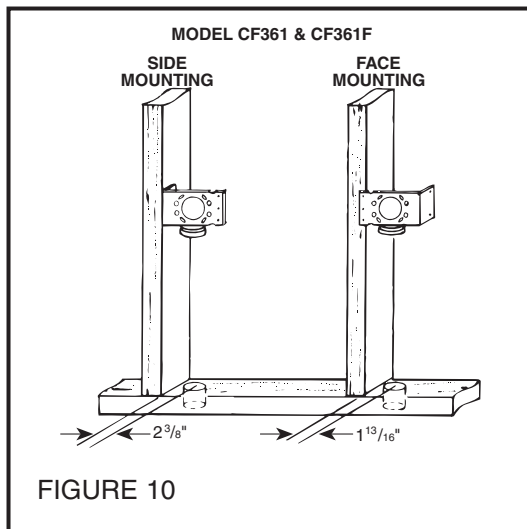

FIGURE 10
3. Refer to Figure 10. Nail bracket to the side of the stud so that the front edge of the bracket is flush to the front of the stud. (The bracket may also be nailed to the front edge of the stud. See face mounting illustrated. For face mounting, use locating tabs on bracket for proper alignment.)